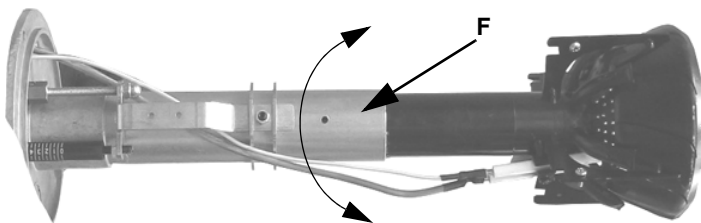
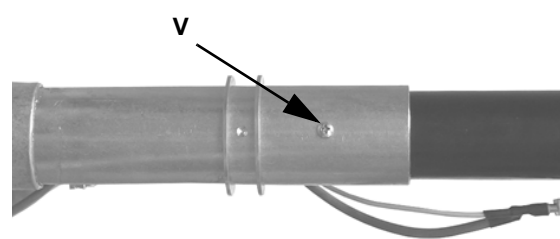

Fig. 16
Fig. 17
- 5 Take off the flange and the combustion head together (Fig. 16).
7 Unscrew the **V**, rotate the head of 180 ° along its axis as shown in(Fig. 16), until the hole **F** is found. Fit the screw again(Fig. 16 - Fig. 17).